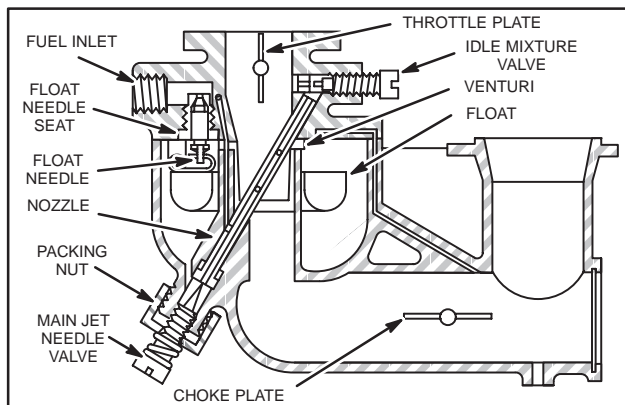

Fig. 269 – TYPICAL TWO PIECE FLO-JET CARBURETOR
4. Because nozzle projects diagonally into a recess in upper body, it must be removed before separating upper and lower bodies, Fig. 269.